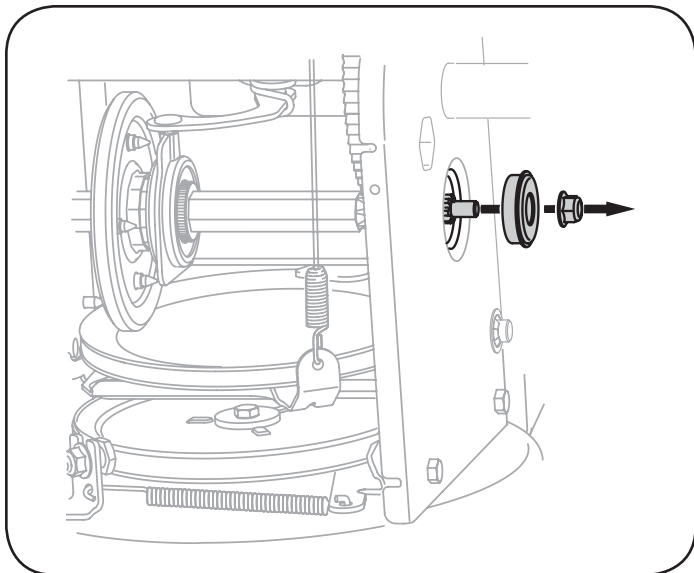

Figure 73
- Carefully remove the hex nut and washer which secures the hex shaft to the snow blower frame and lightly tap the shaft's end to dislodge the ball bearing from the right side of the frame. See Figure 73.